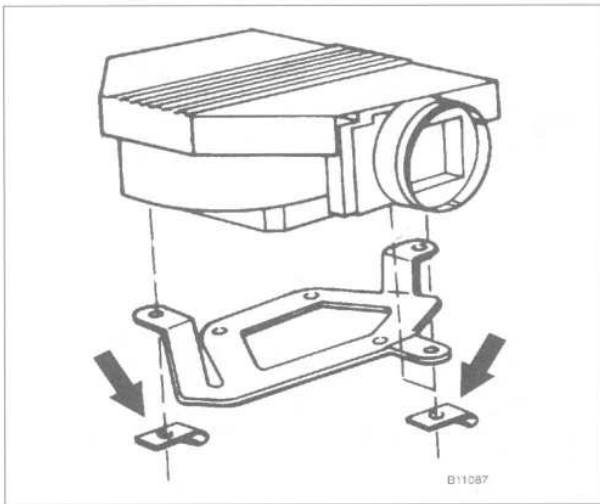

Fig. 5. Air flow sensor mounting clips on M30 engine (arrows).
2. Remove the retaining clips from the underside of the air flow sensor and remove the sensor. See Fig. 5.